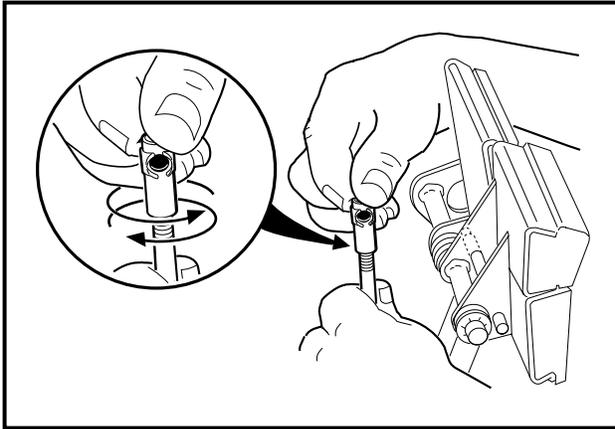

Figure 5-19 Brake Rod Adjustment
- 4.6. If ratchet/pawl engagement must be adjusted, disconnect the ball joint at the top of the brake rod and rotate the ball joint sleeve clockwise to increase engagement or counterclockwise to decrease engagement. Reconnect ball joint (**Figure 5-19, Page 5-15**).